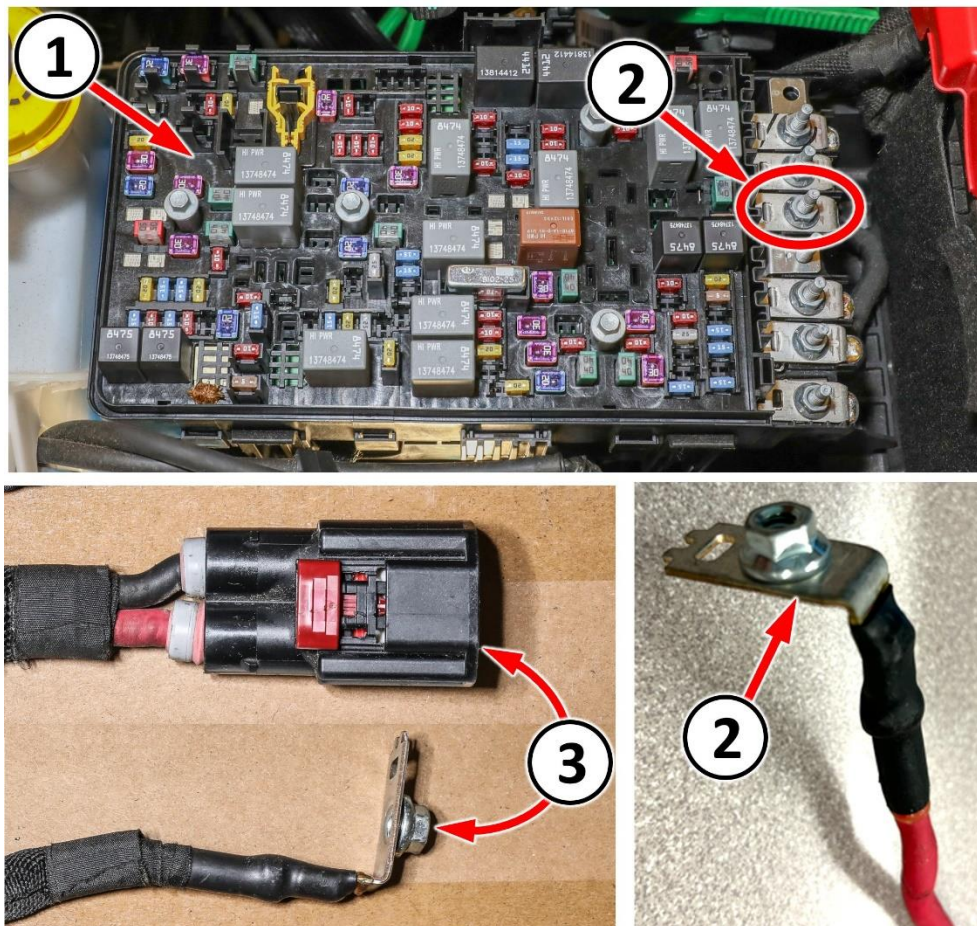

Figure C7 – EHPS Power Supply Eyelet D6630J in PDC
26. Locate the EHPS power supply eyelet D6630J on post #6 and remove eyelet off or the stud (Figure C7).
27. Verify continuity with multimeter between D6630J eyelet and D2704A connector cavity 2 red wire. Also verify the EHPS power circuit is isolated from the vehicle power circuit (Figure C7). NOTE: If a continuity reading is still present between the EHPS power circuit wire and other vehicle power circuits, the wrong wire has been selected.